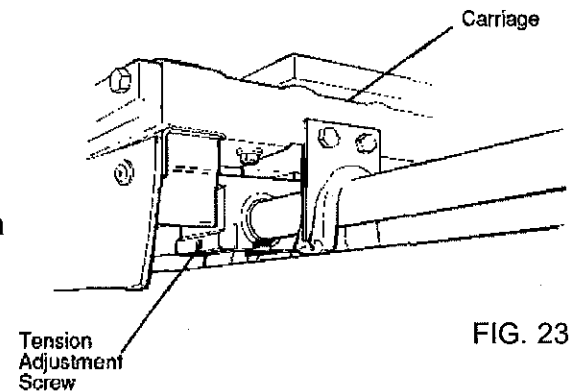
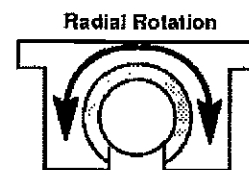

FIG. 23
FIG. 24
6. Adjust the tension screw (FIG. 23) on the side of each bearing block so that when you radially rotate the pillow block around the carriage (See FIG. 24) rail there is no free play between the bearing and rail. You should feel a strong drag.
7. Attach the three linear bearing pillow blocks loosely to the bottom of the carriage, with their tension adjustment screws (FIG. 23) facing outward.